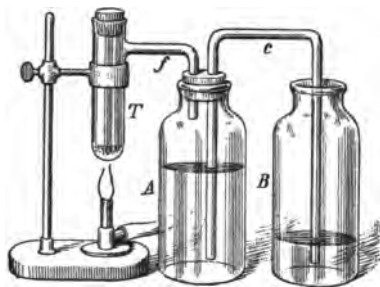

FIG. 21.
**14. Weight of a Liter of Oxygen.**—(For special students.) Arrange the apparatus as shown in Fig. 21. For *T*, a
nitrate,  $\text{NH}_4\text{NO}_3$ , and arrange to collect the gas over warm water. Why? Clamp the test-tube (Fig. 21) upon a ring-stand and heat gently — just enough to secure a slow evolution of gas. Fill two small bottles and test as you did oxygen, with a glowing splinter, a burning candle, and with phosphorus; results? What is the odor of the gas? Compare, in tabular form, with oxygen.